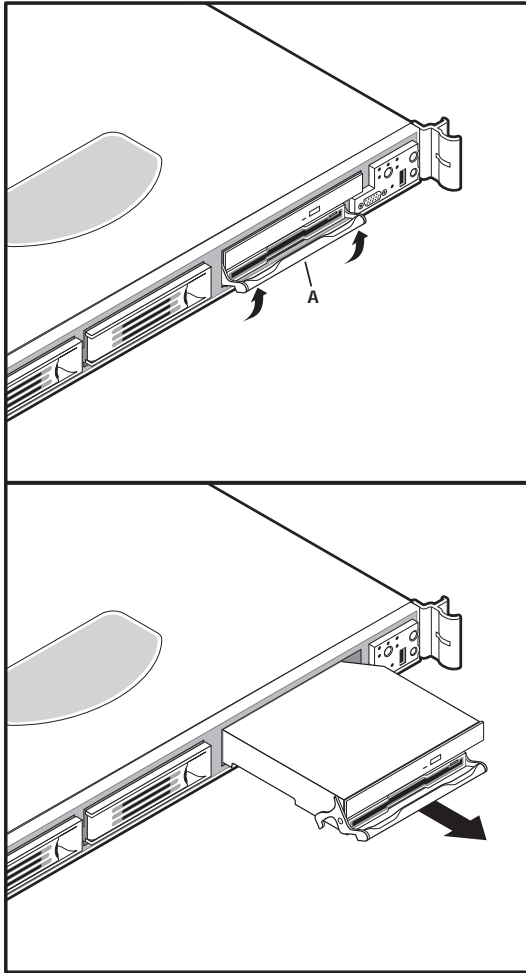

FIGURE 5-4 Floppy/CD-ROM Module Replacement
3. **As shown in Figure 5-4, rotate the module's handle bar up (A) and pull on the handle bar to remove the module from the flex bay.**